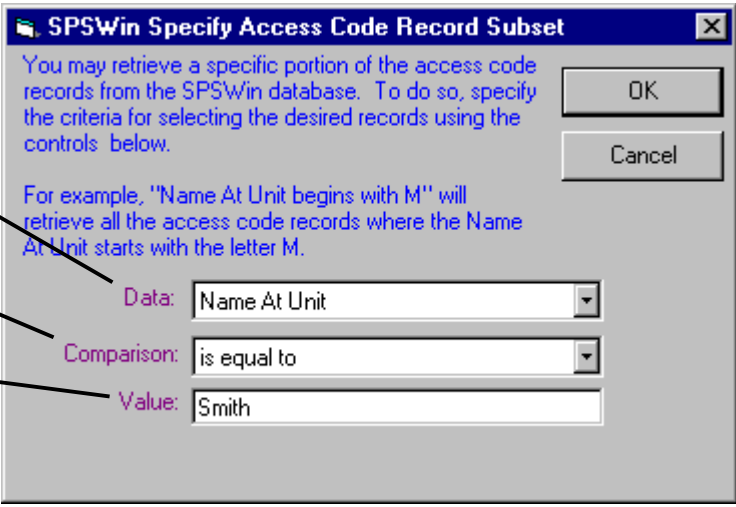

Figure 40: Record Search Window
Search	Perform a entry search (see Figure 40).
- Explore the different ways of searching and sorting access code records by reviewing the Data and Comparison drop-down boxes on the SPSWin Specify Access Code Record Subset screen (Figure 40).